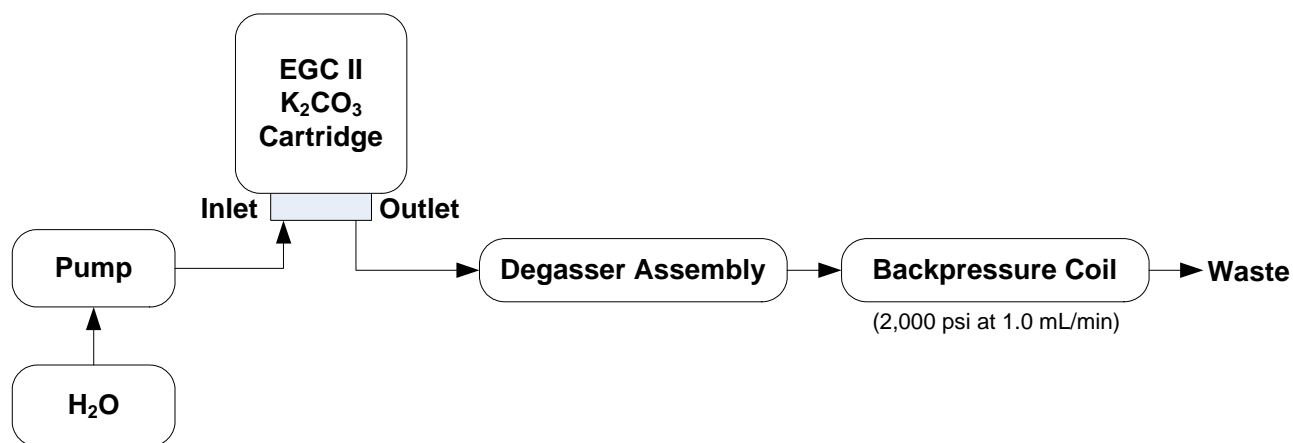

FIGURE 5
4. Direct the outlet of the yellow PEEK backpressure tubing to a waste container (Figure 5).